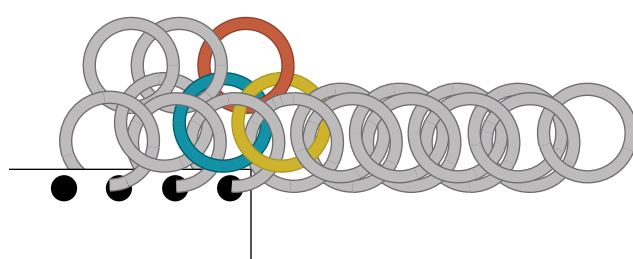

FIG. 6
6. Thread 1 open (orange) jump ring through the third and second linking (blue/yellow) jump rings on the base chain from the front using a TE connection (FIG. 6). Close the jump ring.